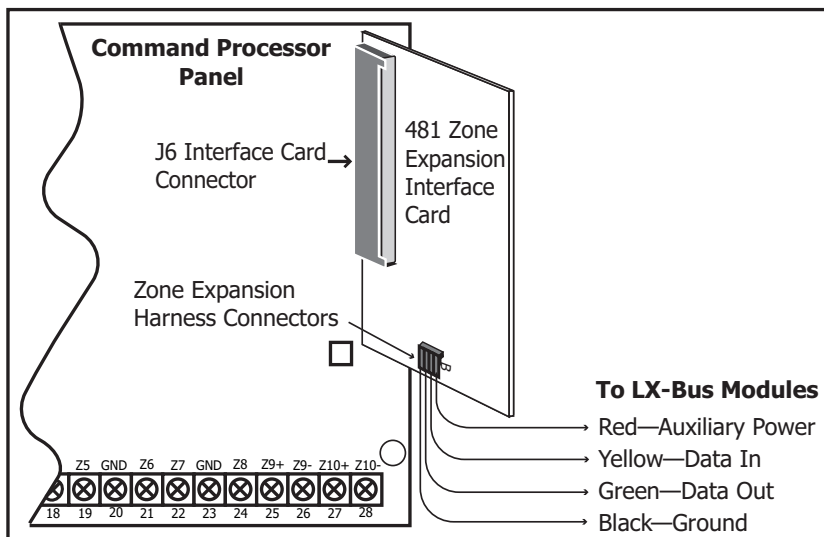

Figure 1: 481 Wiring Diagram
3. Connect the included 4-wire LX-Bus wiring to the harness as shown in Figure 1. All four wires are used.